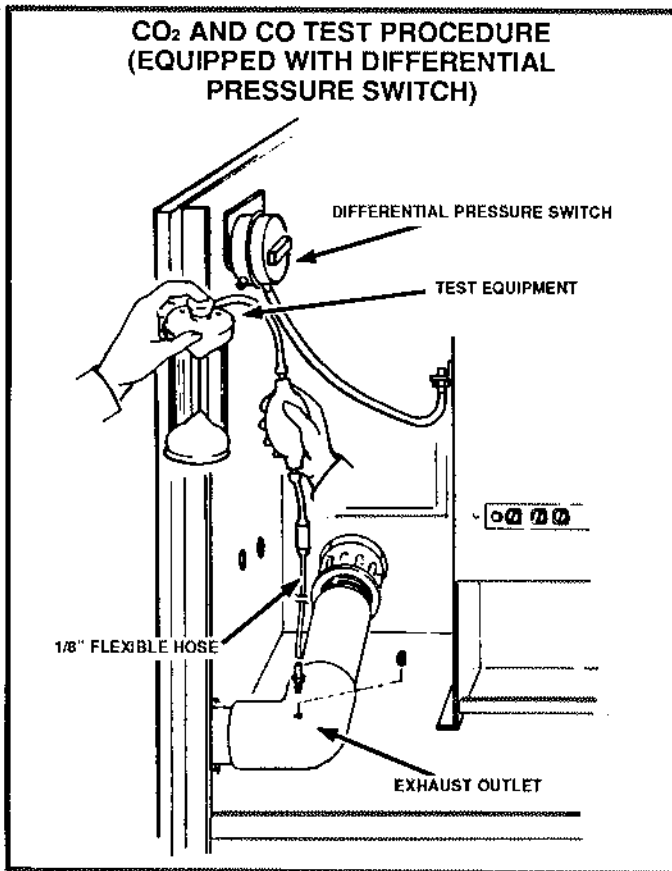

FIGURE 28
- 1- Disconnect the differential pressure switch hose from the 1/8 inch differential pressure switch outlet adapter and connect the sampling device to the hose shown in figure 28.